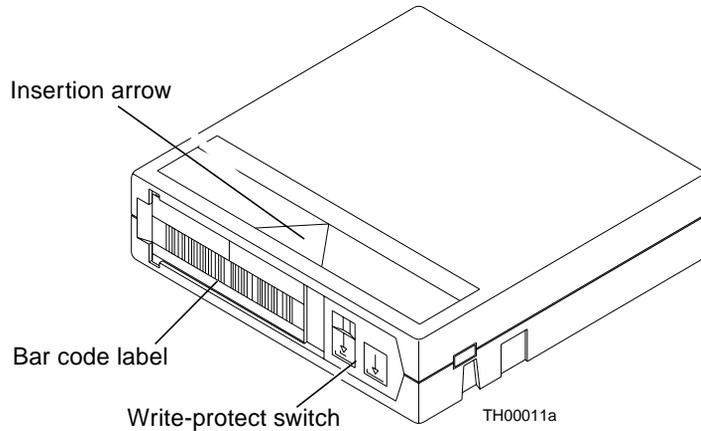

FIGURE 2-14 Correct Tape Cartridge Orientation
3. Make sure to orient each cartridge properly (FIGURE 2-14).
6. Make sure each cartridge is properly seated in the bin. See FIGURE 2-14 for correct cartridge orientation.
2. Make sure each cartridge is properly oriented and seated in the bin. See FIGURE 2-14 for correct cartridge orientation.